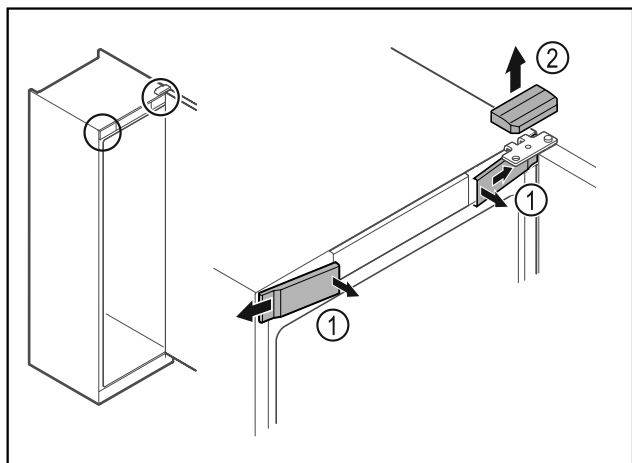

Fig. 5
- Unlatch the front covers *Fig. 5 (1)* on the inside and remove them sideways.
- Lift off the upper cover *Fig. 5 (2)*.